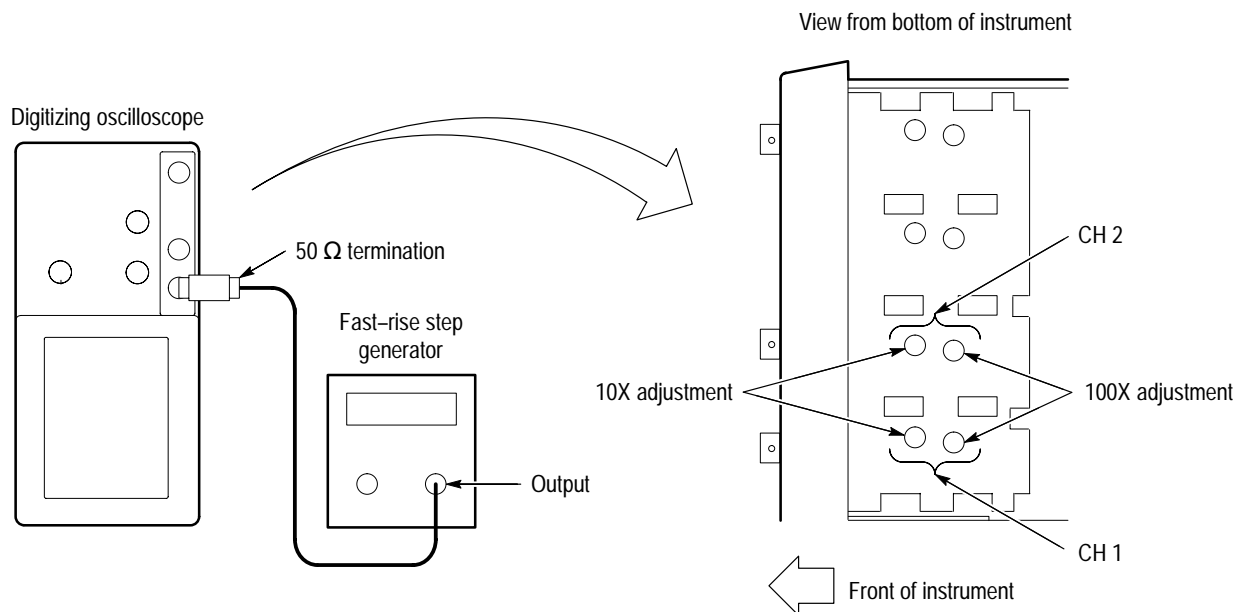

Figure 5–3: Attenuator adjustment setup and locations
12. Use an adjustment tool (Item 1) to adjust the CH 1 10X capacitor for the flattest response. (See Figure 5–3.)
6. Locate the brightness potentiometer (see Figure 5–4). Use an adjustment tool (Item 1) to raise the brightness until the background of the screen turns green.